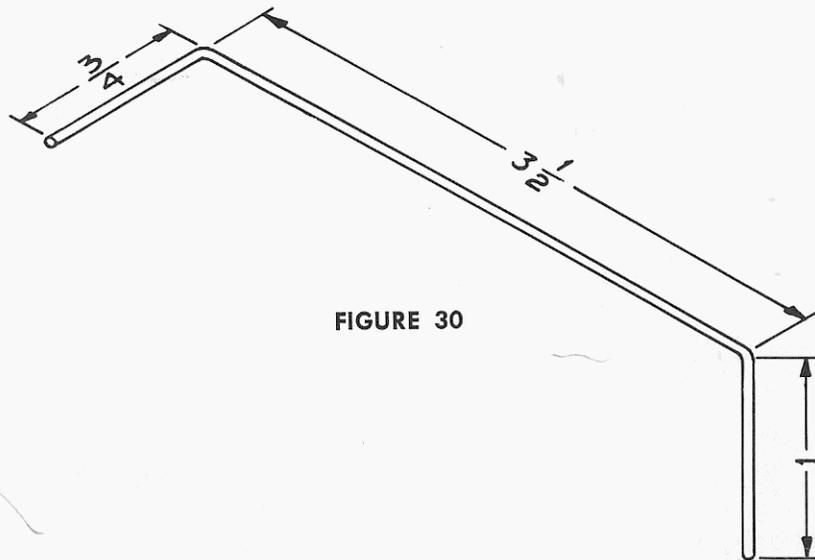

FIGURE 30
- $5\frac{3}{4}$ " heavy bare wire. From this wire to the dimensions shown in Figure 30. Solder the end with the short bend to terminal 13 of wafer 1. Solder the other end to terminal 1 of TS-9 (2 wires).